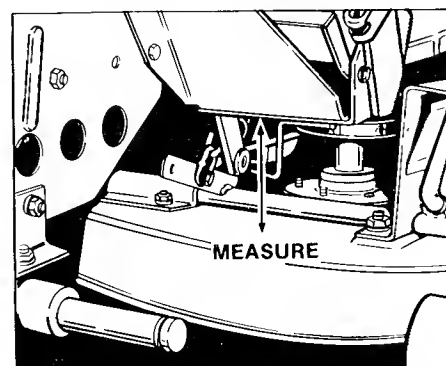

Figure 39. Measurement - Large Lift Lever
2. Measure the distance from bottom edge of lever bracket to mower deck (figure 39).